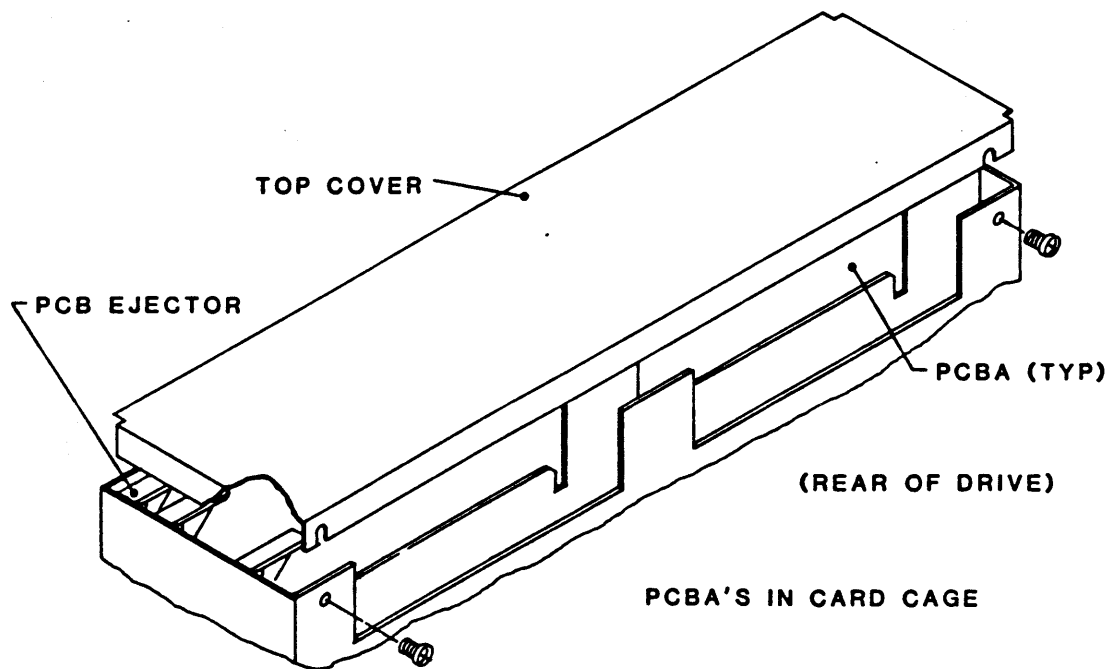

Figure 4-3 Card Cage
4.3.2 PRINTED CIRCUIT BOARD ASSEMBLIES IN CARD CAGE (Fig. 4-3)